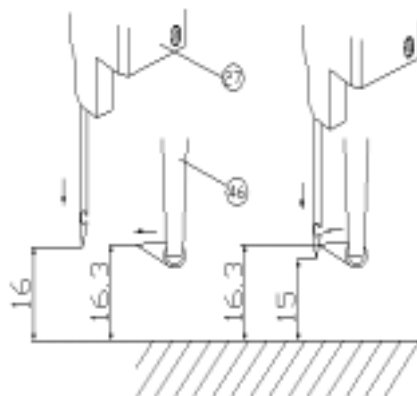

FIG.23
Bring the needle bar to the beginning of the first cycle. Use the 15-mm-long side of the gauge (29) and set the needle bar at 1 mm from its U.D.C.; the distance between throat plate and the tip of the needle should be 15 mm. FIG. 23.